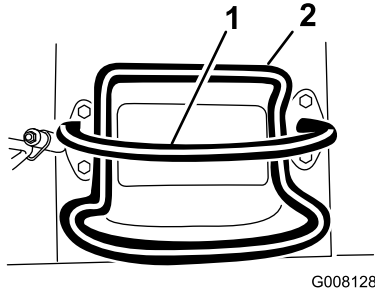

Figure 6
- To stop the machine, release the traction control (Figure 6).